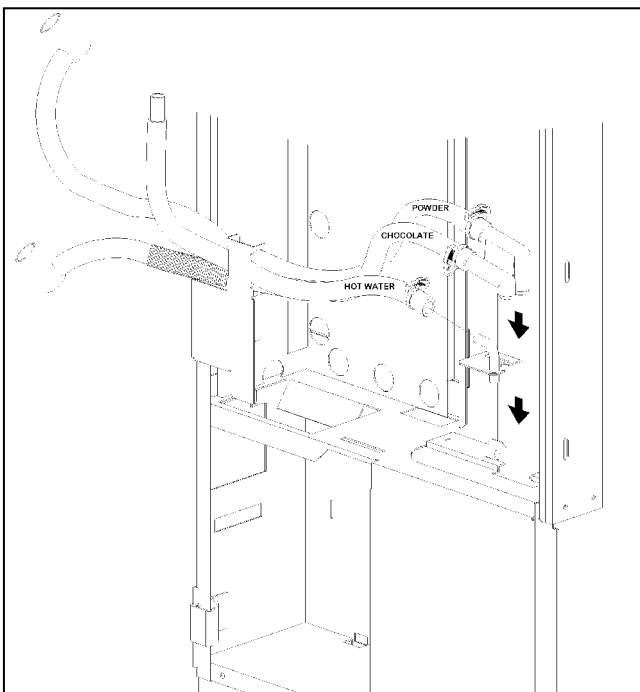

Figure 5 - Install the new door tubes assembly.
6. Remove the existing door tube assembly and replace it with the new one, including a new outlet spout weld assembly (figure 5).